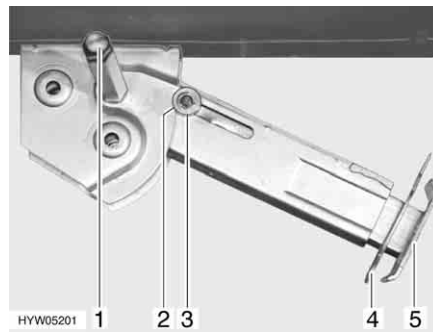

Fig. 48 Steady leg
- Place the socket spanner on the hexagon nut (Fig. 48,1) and rotate until the steady leg is in a perpendicular downward position.
- Remove the splint (Fig. 48,4) out of the support foot extension (Fig. 48,5).
- Place the socket spanner on the hexagon nut (Fig. 48,1) and rotate until the steady leg is clear of the ground.
- Push in the support foot extension (Fig. 48,5) and insert the splint (Fig. 48,4) in the drilled hole in the support foot extension.
- Rotate the hexagonal nut (Fig. 48,1) with the socket spanner until the steady leg has swung upwards and the guide disc (Fig. 48,3) has completely retracted into the notch (Fig. 48,2).